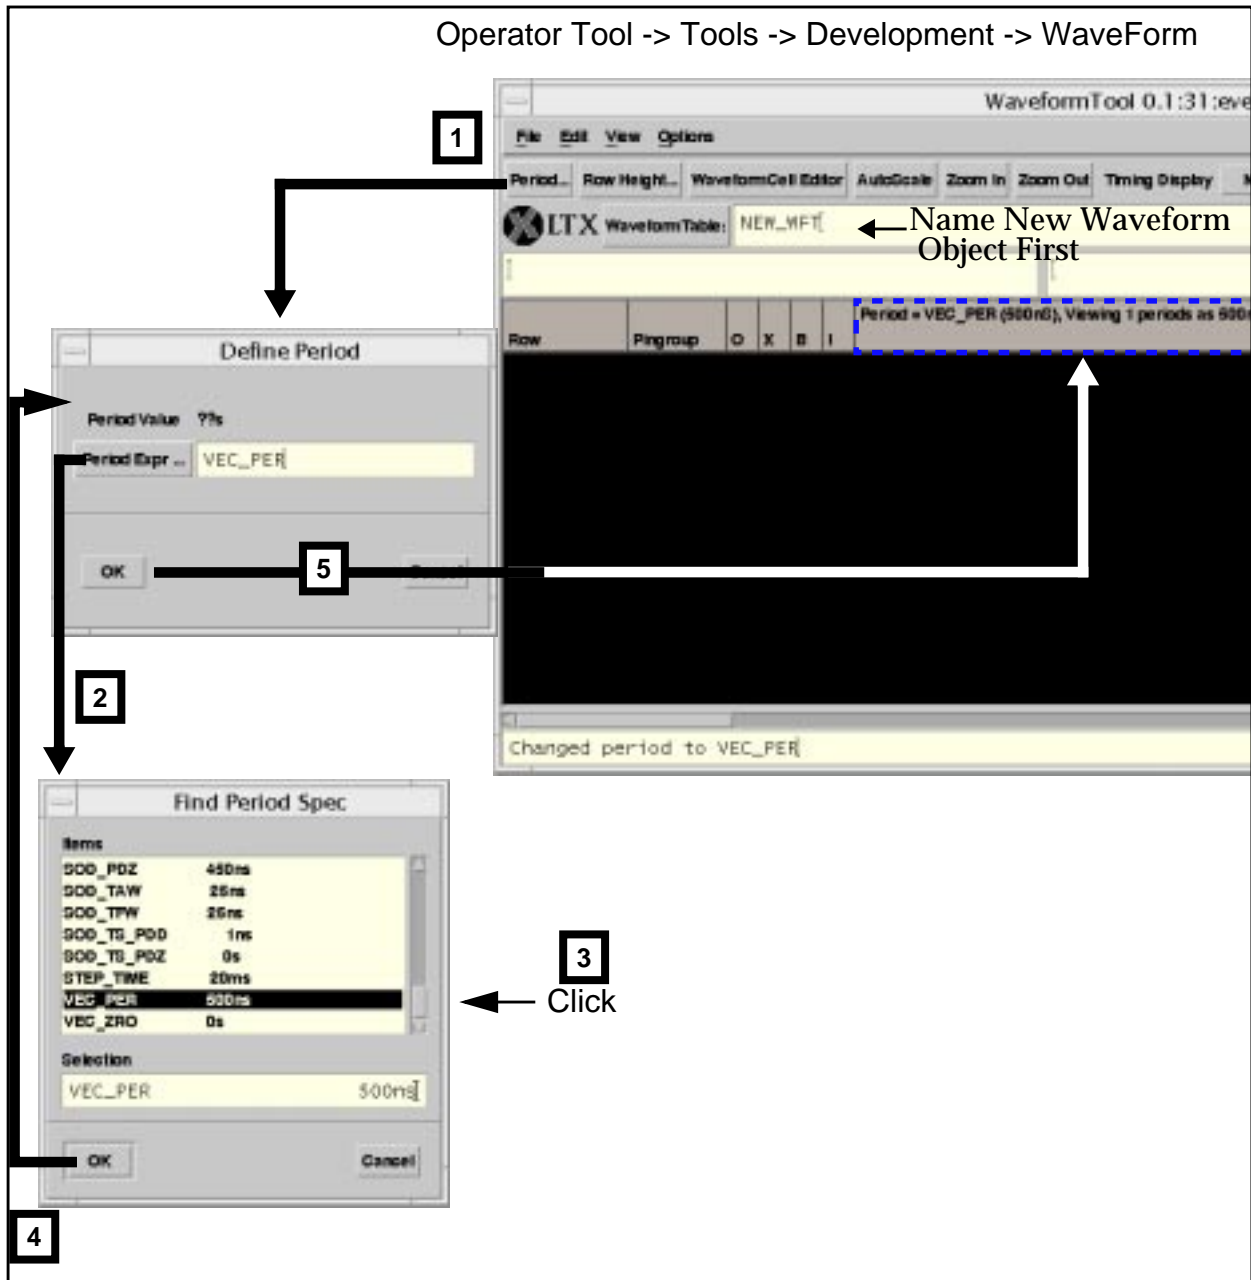

Figure 2.29: Creating a Waveform Table Object and Its Period
2. Enter the name of the `WaveformTable` object; refer to Figure 2.29.
1. Click M1 on Period... button; refer to Figure 2.29.